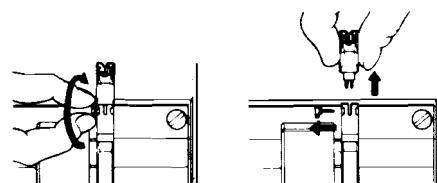

Fig. 1
2. Completely loosen the setscrew and pull out the cartridge. (Fig. 1)